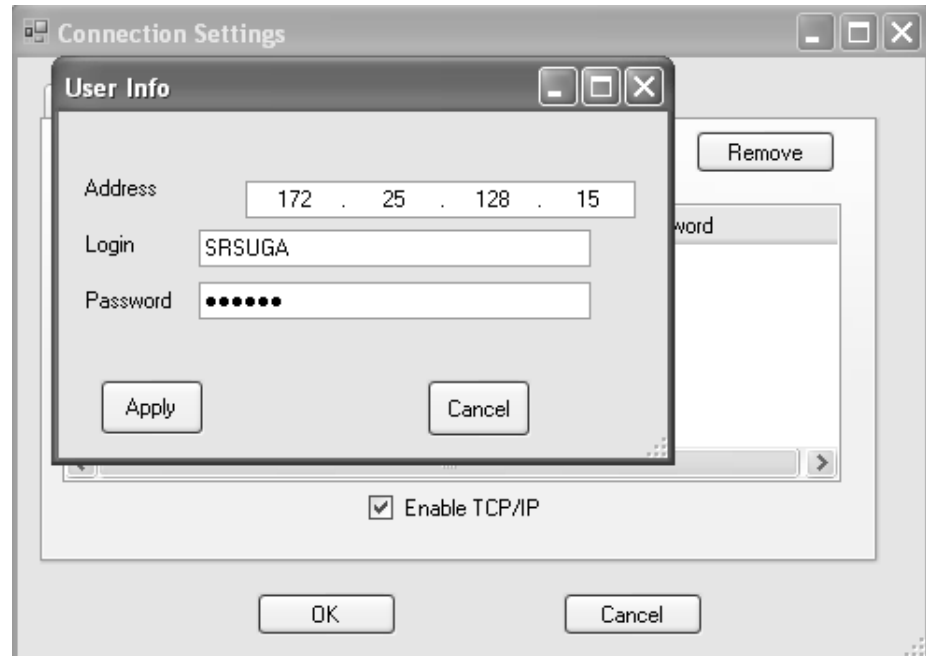

Fig. 2-8. Screenshot of the 'User Info' box for TCP/IP connection.
- Click the 'Add' button. Another dialog box (User Info) will pop up. (See Fig. 2-8 in the next page.)